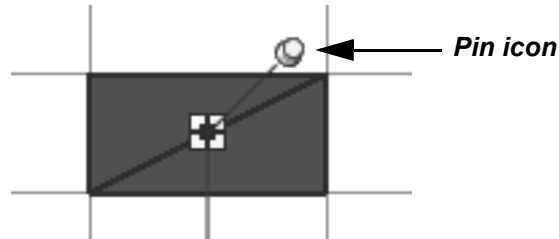

Figure 2–47
- If you do not want elements to be moved, select the elements and in the *Modify* tab, in the Modify panel, click  (Pin). Pinned elements can be copied, but not moved or deleted. Select the element and click the pin icon, as shown in Figure 2–47, or type the shortcut **UP** to free it.